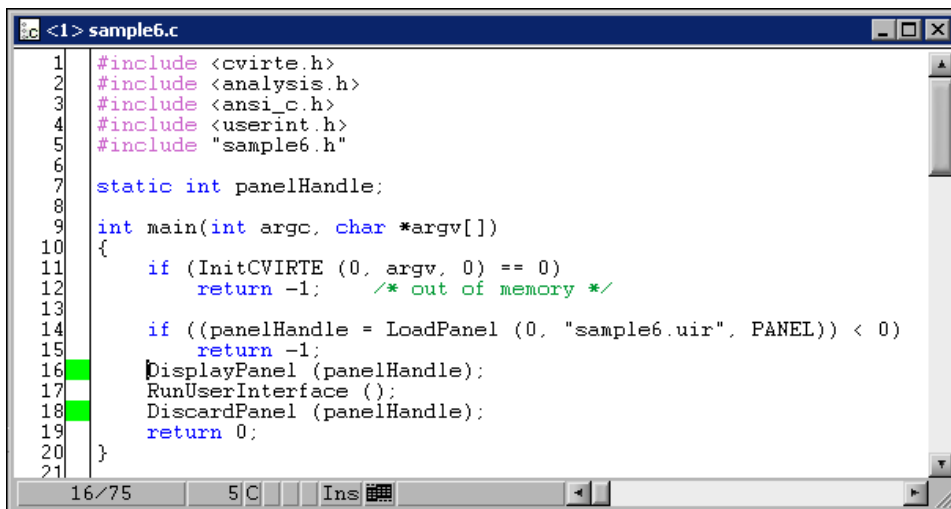

Figure 8-1. sample6.c Source File with Tags
4. Position the cursor on the tagged line in the middle of the main program, the `DisplayPanel` function, as shown in Figure 8-1. You can move to this line quickly in the source code by pressing <F2>.